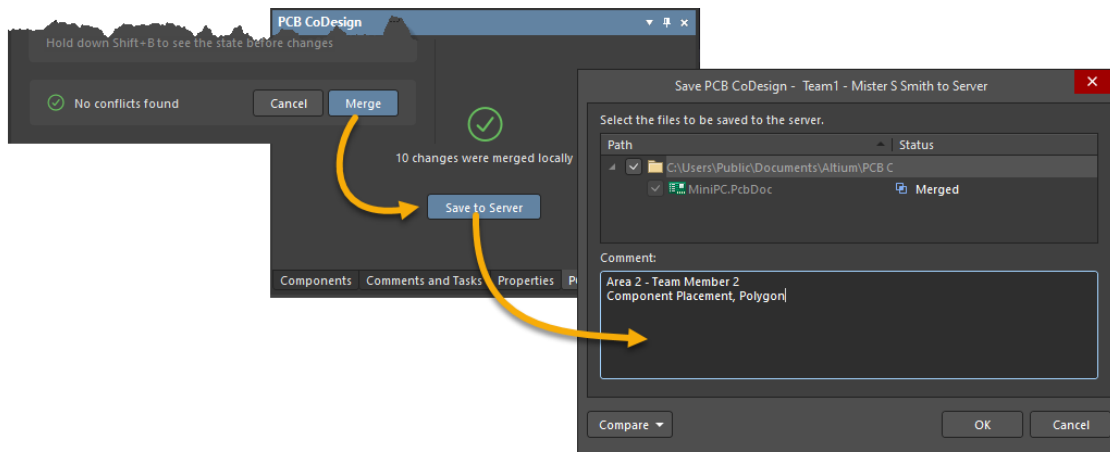

Figure 19. Save to Server
48. In the *PCB CoDesign* panel, Figure 19:
51. In the *PCB CoDesign* dialog, as shown in Figure 19 above: